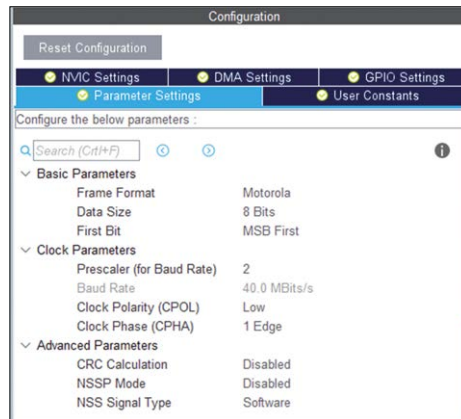

Figure 13.8: Parameter settings.
- In **Parameter Settings**, set the **Data Size** to 8 bits, and **First Bit** to **MSB first** (Figure 13.8).